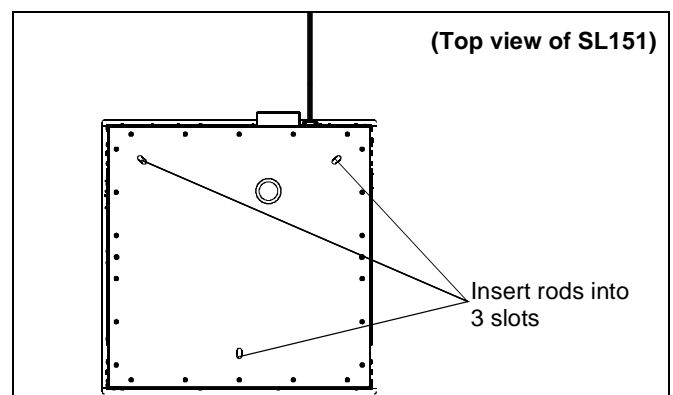

Figure 8
1. Turn SL151 over and place onto threaded rods, inserting the rods into the three slots on top of the SL151 housing. (See Figure 8)